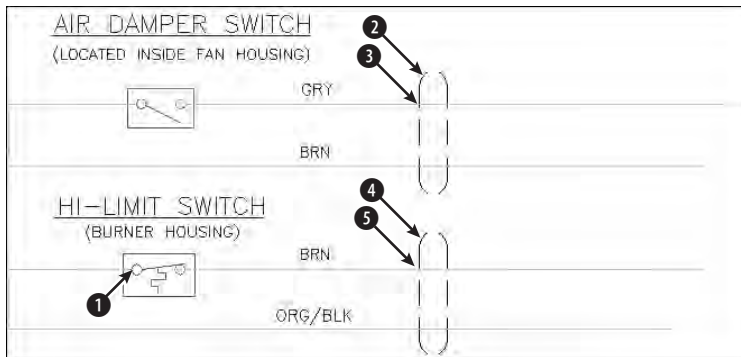

Figure 18-12: The electrical schematic has several symbols that would be useful as blocks.
2. Save the file as `ab18-04.dwg` in your *AutoCAD Bible* folder. This is a portion of an electrical schematic, as shown in Figure 18-12. OSNAP should be on. Set running object snaps for endpoint, midpoint, quadrant, and intersection.
3. Choose **Make Block** from the Draw toolbar. In the Name text box of the Block Definition dialog box, type **hl switch**. Choose **Select Objects**. Use a selection window to select the entire hi-limit switch box (not including the text labels). Right-click to end selection. Choose **Pick point** in the Base point section of the dialog box. Use the Quadrant object snap to pick the left quadrant of the left circle in the switch, at ❶ in Figure 18-12. Choose **Retain** in the Objects section. Click **OK**. The objects in this block were created on the Object layer, which is red with a continuous linetype. The color, linetype, and lineweight are set to ByLayer.
6. Use a selection window to select the top conduit symbol at 2 in Figure 18-12 (it is four objects). (It is currently on the Conduit layer, which is black and has a linetype of Hidden2.) Use the Color Control drop-down list box to set the color to green. Use the Linetype Control drop-down list box to set the linetype to Hidden2. Choose **Make Block** from the Draw toolbar. In the Name text box, type **top conduit**. The dialog box tells you that four objects are selected. Choose **Pick point**. Use the Intersection object snap to pick 3. Click **OK**. The conduit appears green with the Hidden2 linetype.